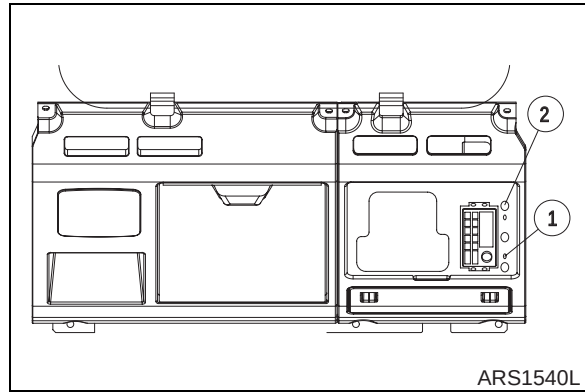

**Figure 9**
3. Install four mounting nuts on four corners of cabin floor (2, Figure 9).
4. Install four hex bolts (3, Figure 9) in door side of cabin floor.
5. Install two hex bolts (1, Figure 9) in right side of cabin floor and one bolt (4) in front of cab floor.